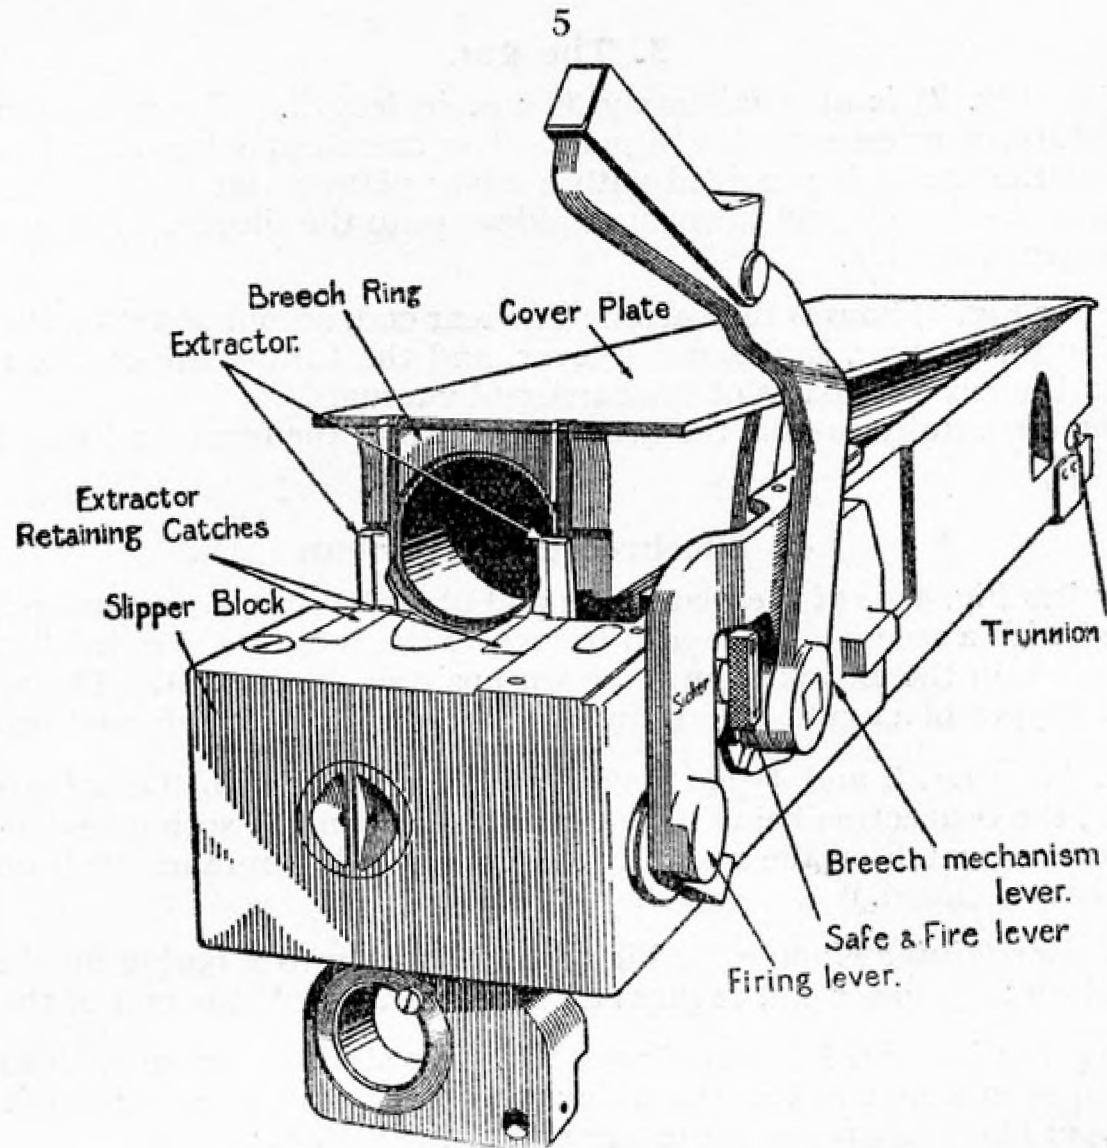

FIG. 2.—7.5 cm. (2.95 in.) LIGHT INFANTRY HOWITZER (7.5 cm. I.L.G.18)—
i. *The barrel* (see Fig. 2) is approximately 30 ins. in length. The muzzle end is formed with trunnions, which rotate in recesses in the slipper. The breech end has a rectangular breech ring. The upper surface of the barrel is provided with a cover plate as far as the trunnions. A guide is formed on each side of the breech ring to engage guideways in the slipper, while a longitudinal groove in the right side receives the slide.